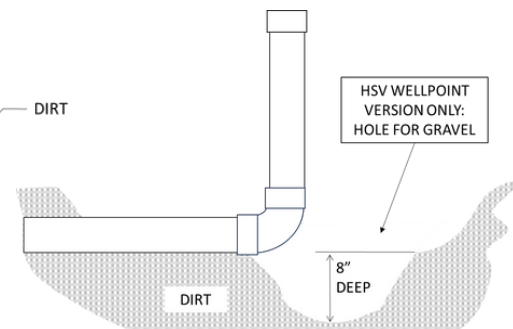

Figure 3
- b. Hydrostatic Valve Clearance:** If this drain will have a Hydrostatic Valve (HSV), dig an area an extra 8" of depth for the HSV Well Point and gravel. (See Figure 3).